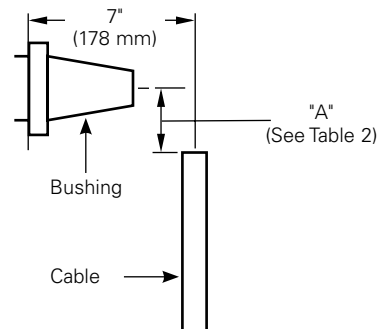

Figure 3. Line illustration for cable training.
- Cut cable to length "A" from centerline of bushing. (Refer to Figure 3 and Table 2 for "A" length.)